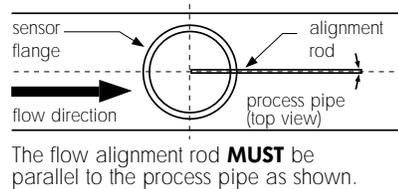
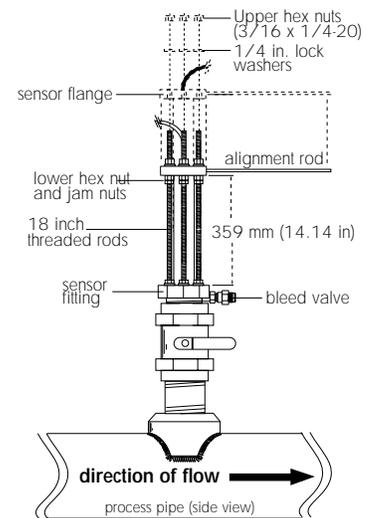

Fig. 10
Fig. 11
D. Secure the sensor with lock washers and upper hex nuts on the top of the flange. Before tightening, align the sensor flange so that the alignment rod is parallel and level with the process pipe. (Fig. 10 & Fig. 11)